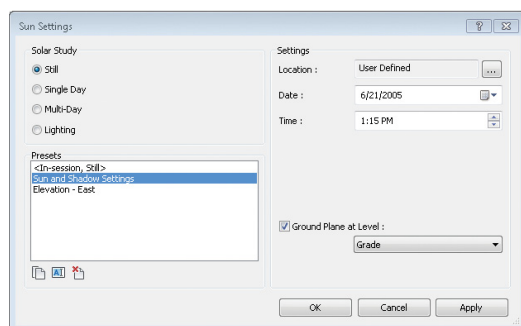

FIGURE 9.15 Sun Settings dialog box
5. After the High Quality rendering is finished, click the Sun Settings button in the Lighting group. The dialog that opens allows you to specify the location of the sun during your rendering. Change the Time setting from 10:15 a.m. to 1:15 p.m. (Figure 9.15), and click OK. Click Render again to see how this iteration changes the rendering.